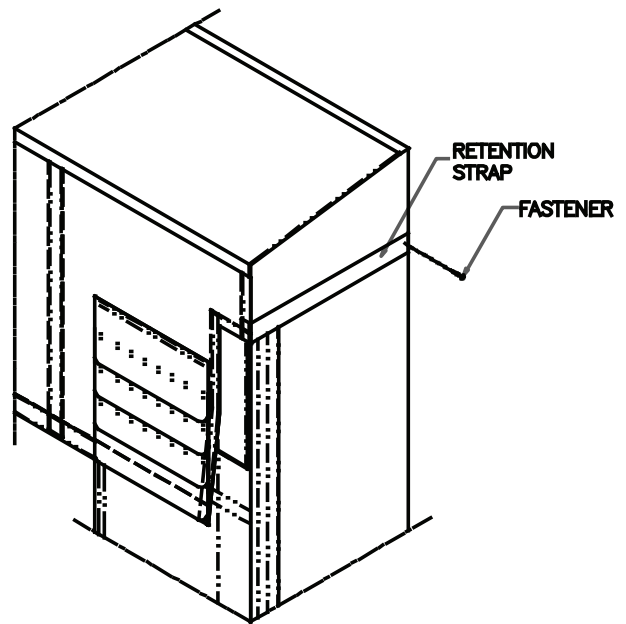

FIGURE 3
2. Line the curtain face up with the outside edges of the unit. (See Figure 3)